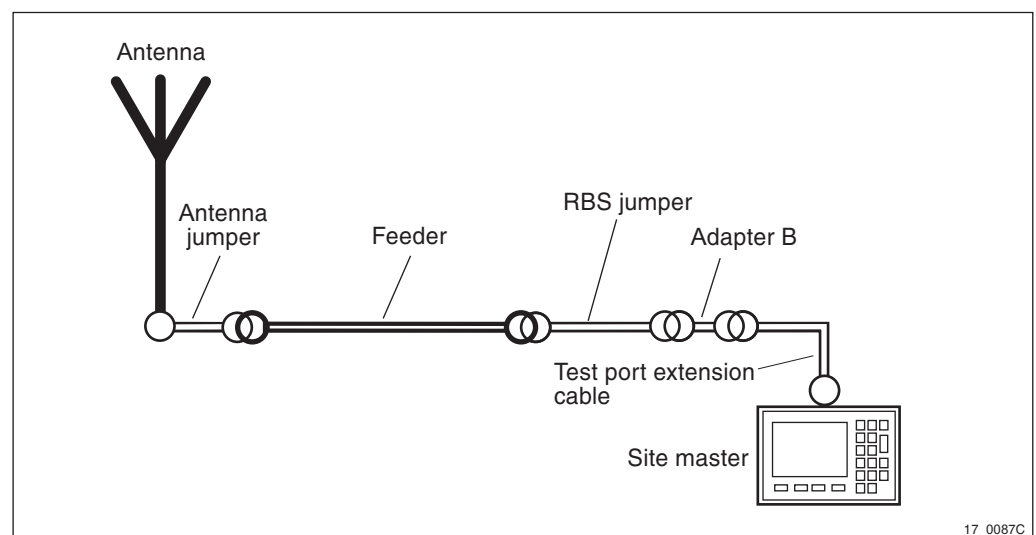

Figure 72
A complete test setup is shown in *Figure 72 on page 97*.
4. Connect the test equipment to the antenna system according to *Figure 72 on page 97*.